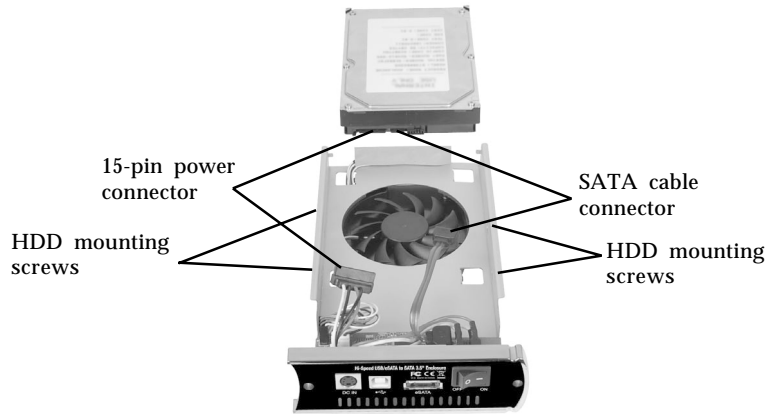

Figure 4
2. Connect the 15-pin power connector to the hard drive. Next, connect the **SATA cable** to the **SATA connector** of the hard drive, then gently push it into the **SATA connector** (Figure 4, page 4).